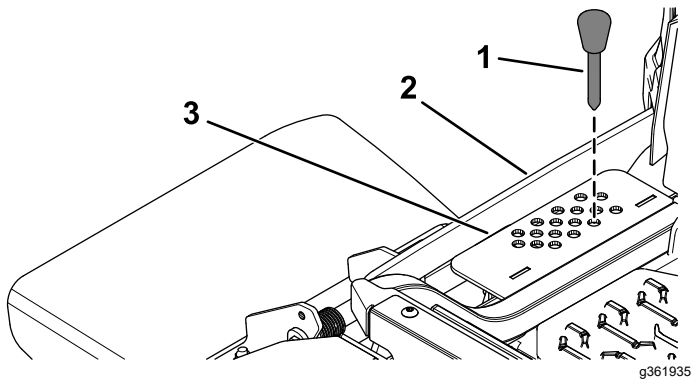

Figure 33
2. Select a hole in the height-of-cut bracket corresponding to the height of cut desired, and insert the pin (Figure 33).
3. Push down on the deck-lift switch until the height-of-cut linkage slightly contacts the height-of-cut pin (Figure 33).